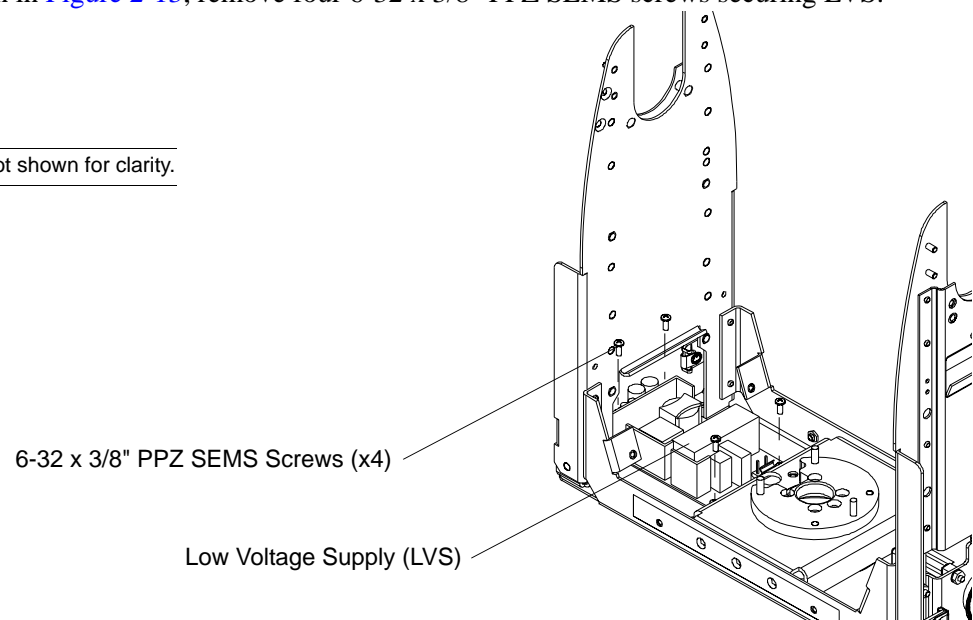

Figure 2-13: VLX Wash LVS Removal
- Step 6. As shown in Figure 2-13, remove four 6-32 x 3/8" PPZ SEMS screws securing LVS.